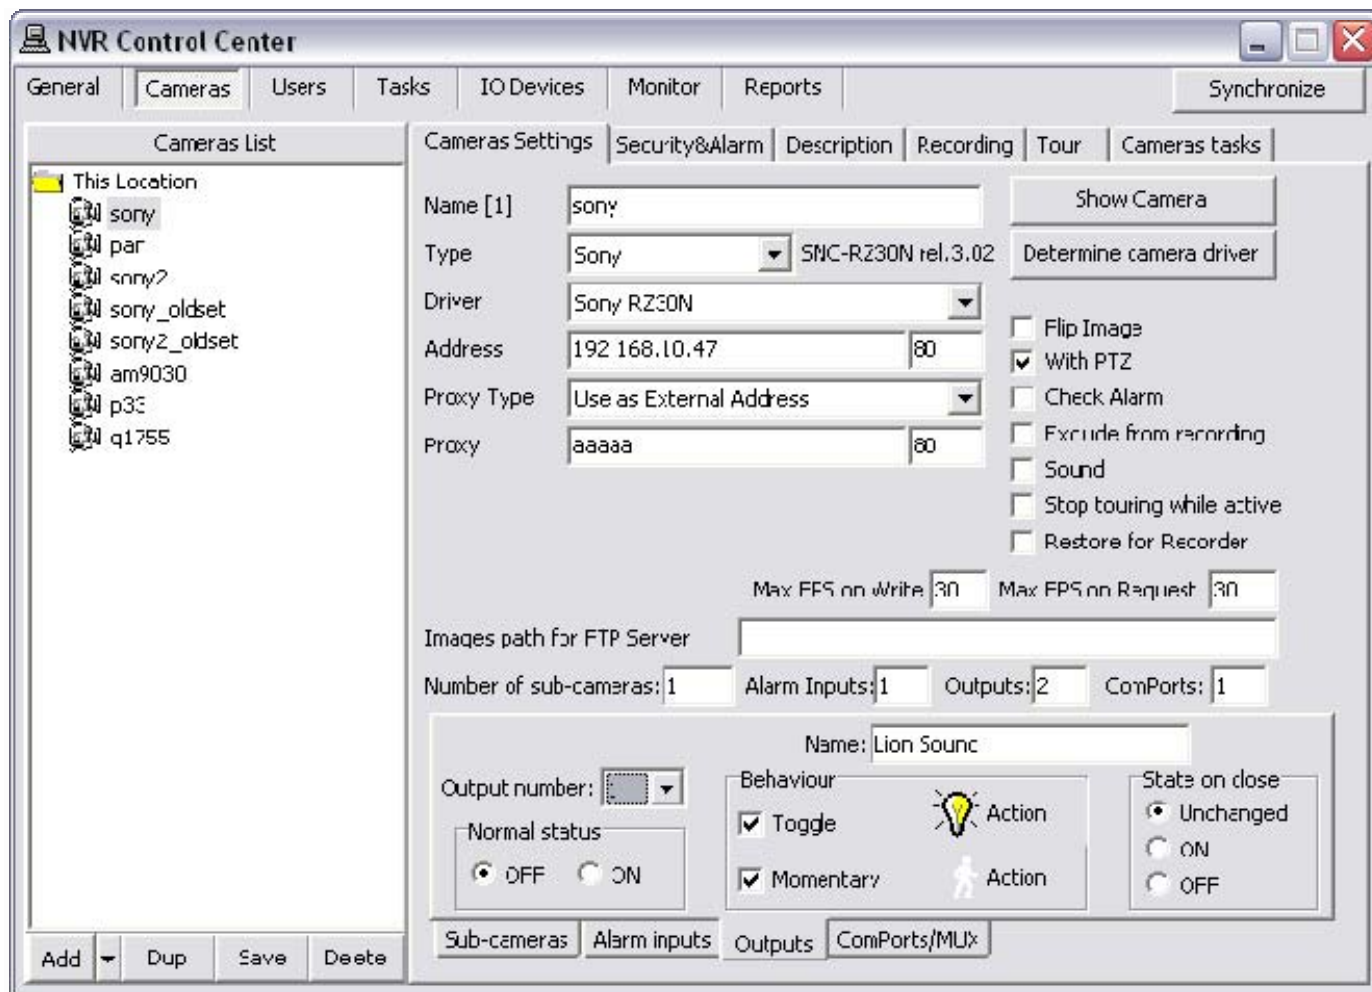

Fig 85. NVR Control Center — Cameras — Cameras Settings
IP device outputs are only available for the selection if previously configured for the camera in the **NVR Control Center — Cameras — Cameras Settings — Outputs** (Fig 85).
- ✓ On Fig 85 the momentary relay only has been enabled for the output — only one relay action button is visible.